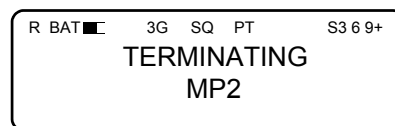

Figure 3-23. Terminating Screen
- k. The Terminating Screen will be displayed momentarily (see Figure 3-23) and the AN/PRC-150(C) will return to CH#### SCANNING.
- k. The Terminating Screen will be displayed momentarily (see Figure 3-23) and the AN/PRC-150(C) will return to CH### SCANNING.